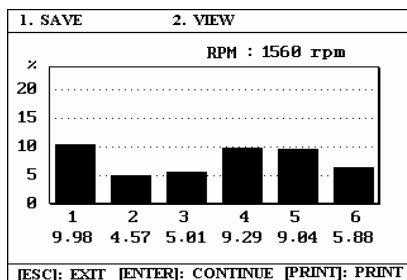

Fig.7-14
After test, the result will be automatically displayed on the screen as shown in Fig.7-14.
**Note:** As shown in Fig.7-14, the digits under the bar graph are cylinder numbers; the value under the cylinder number is the percent (%) speed drop. If the engine speed increases when a cylinder is disabled, the displayed height of the bar is zero, and the percent speed drop is a negative value for the cylinder.